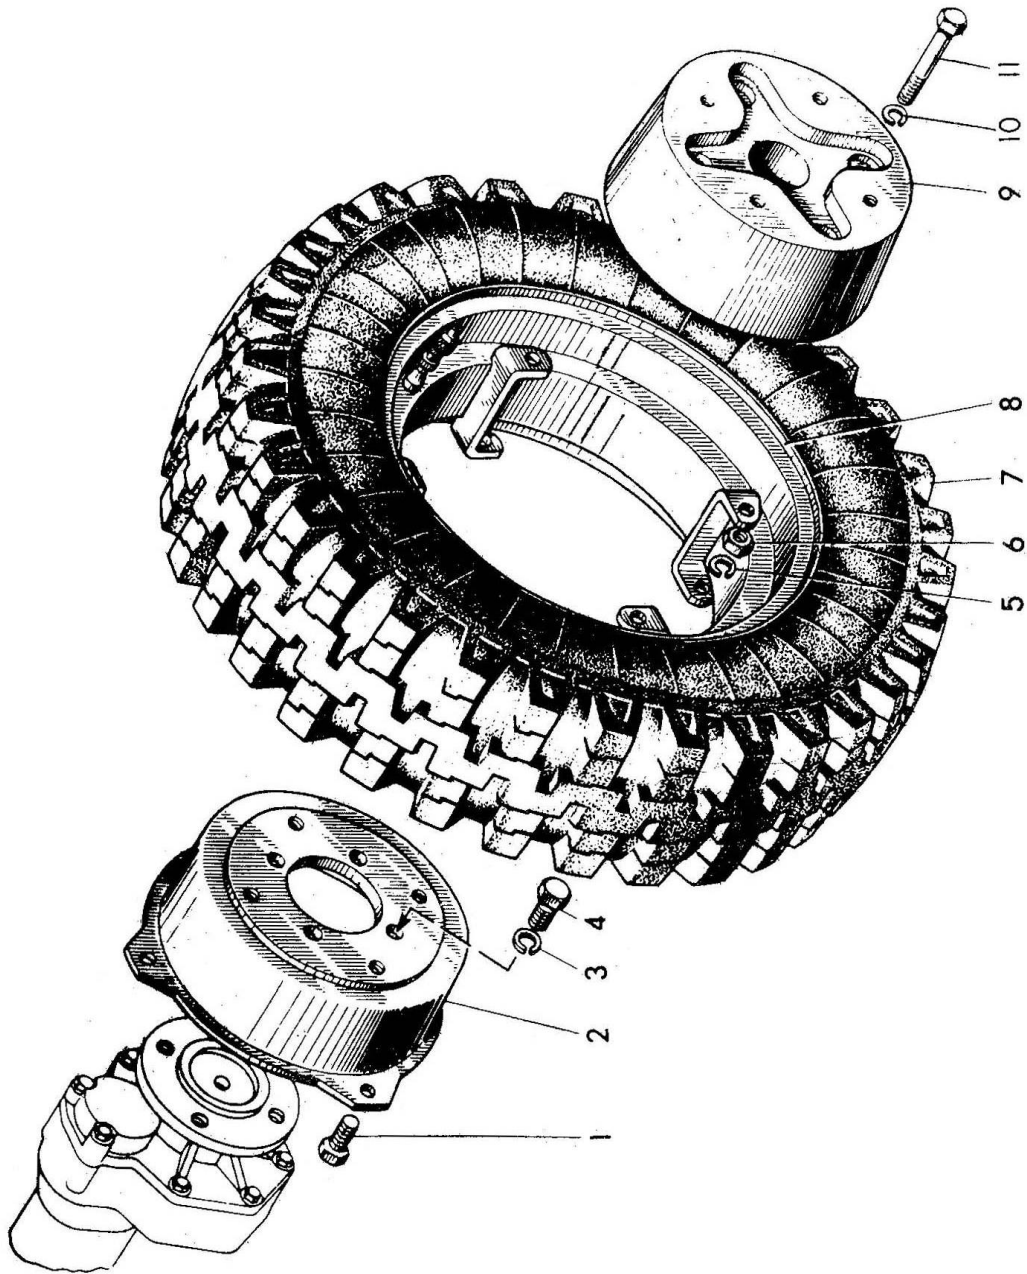

Figure 8 – Wheel
**3101. Wheel (figure 8)**
**05-4235. Weight (figure 8)**